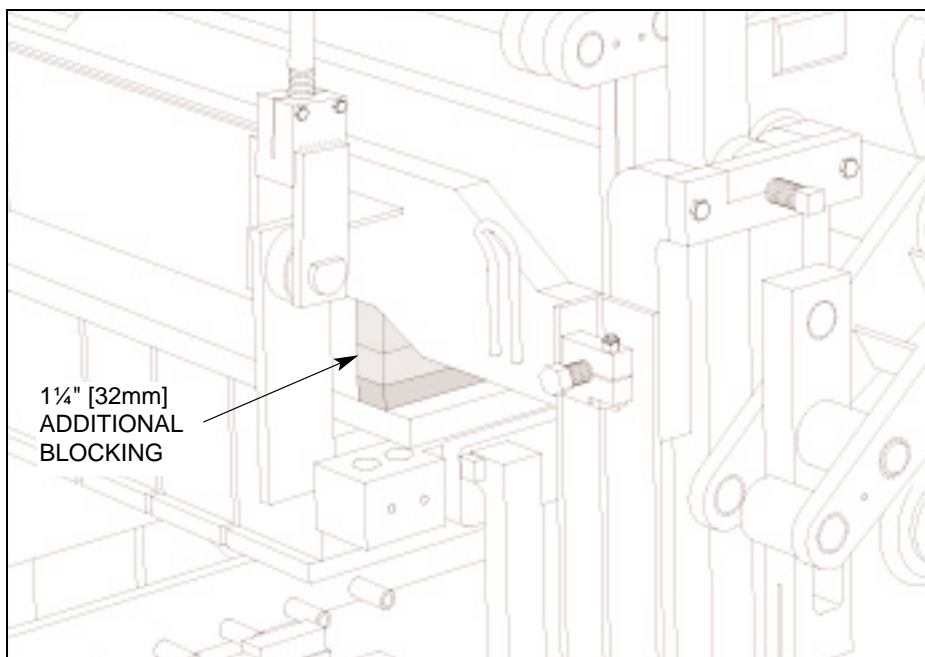

Figure 4.16 PLACING BLOCKING TO THE STRIPPER HEAD FRAME.
- 4.1.32 Insert **1¼" [32mm]** of blocking in addition to the **1½" [38mm]** of blocking already affixed to the stripper head frame. The above blocking assumes a stripper head frame of **14 3/16" [360mm]** from the top of the stripper head plate to the bottom of the shoes (see figure 4.16).